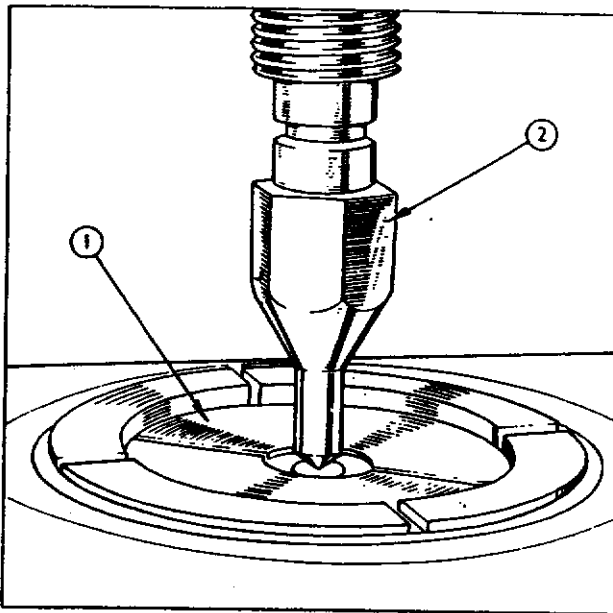

Fig. 8
2. Remove the pump pulley from the shaft, using the split ring (CPT.8000-2 detail "a") assembled around the boss on the front of the pulley. The centre screw adaptor (CPT.8000-3 detail "d") must also be used to push against the centre of the shaft (see Fig. 8).